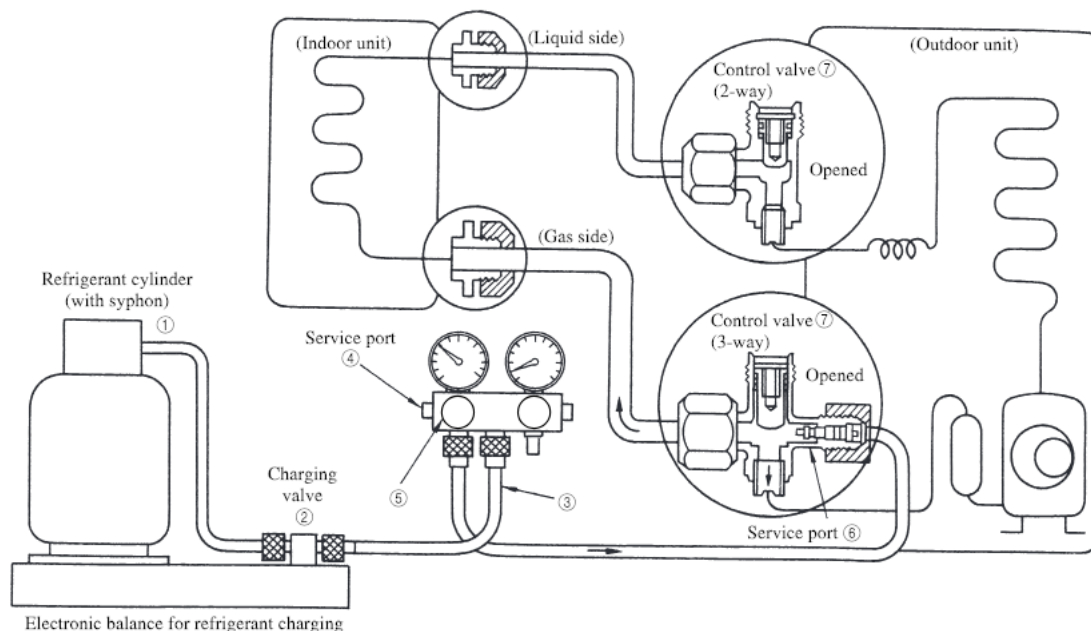

Fig.7 Configuration of additional refrigerant charging
- (ii) Additional refrigerant charging required for refrigerant piping length longer than standard length (The following steps should be taken following the step e) in (1) above. See Fig. 7)